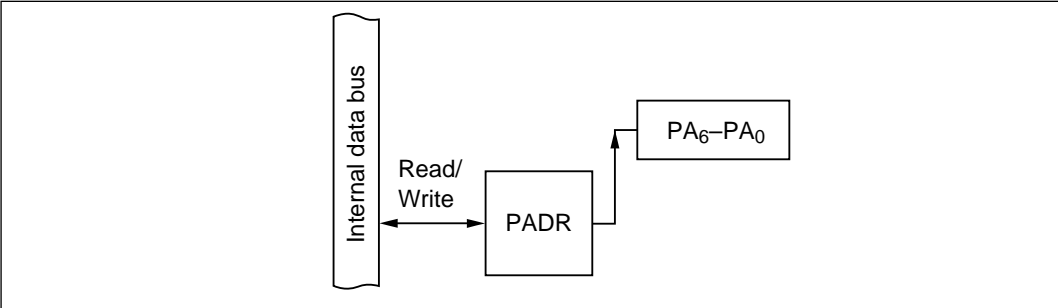

Figure 10-64 Output Port (Modes 1 to 7)
(2) **Output Port (PA₆ to PA₄ in Modes 1 to 7; PA₃ to PA₀ in Modes 1, 2, 6, and 7):** Figure 10-64 shows a block diagram illustrating the general-purpose output function. Table 10-48 indicates register read/write data. The value written in the port A data register (PADR) is output at the pin. When read, PADR returns the value written in PADR.